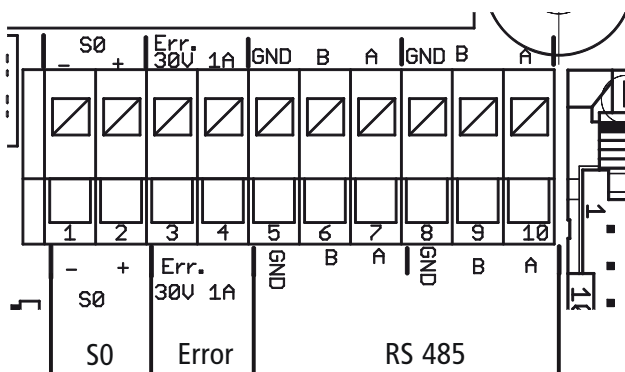

Figure 24: Interface terminals
3. Connect the connection cables to the corresponding connection terminals (see Figure 24 on page 25).